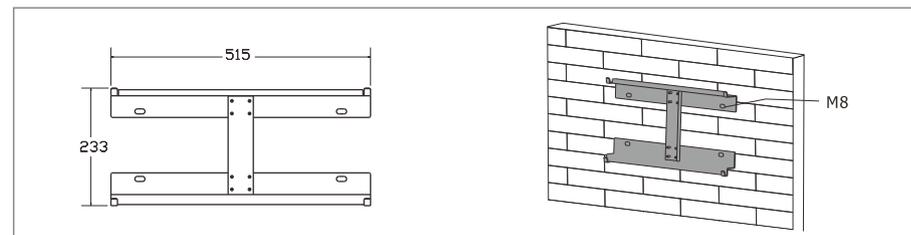

Figure 3.4-1 Install the inverter hanging plate
**Step 1.** Please use the mounting bracket as a template to drill 5 holes in the right positions (10mm in diameter, and 80mm in depth). Use M8 expansion bolts in accessory box and fix the mounting with a 12mm drill bracket onto the wall tightly. The installation of inverter support is shown in Figure 3.4-1.